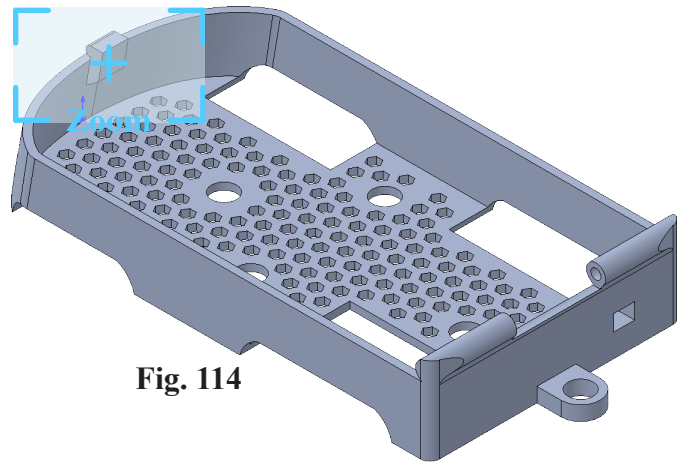

Fig. 114
Step 1. Use **Previous View**  on the Standard Views toolbar. (**Ctrl-Shift-Z**) to return to previous view and zoom in on catch, **Fig. 114**.